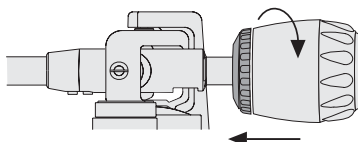

Fig. 2: Mounting the counterweight
- 2 Take the counterweight out of one of the two lateral polystyrene wrappings and place it on the rear end of the tone arm until it locks into the place. The counterweight is then used for precise adjustment of the stylus pressure on the record (Fig. 2).